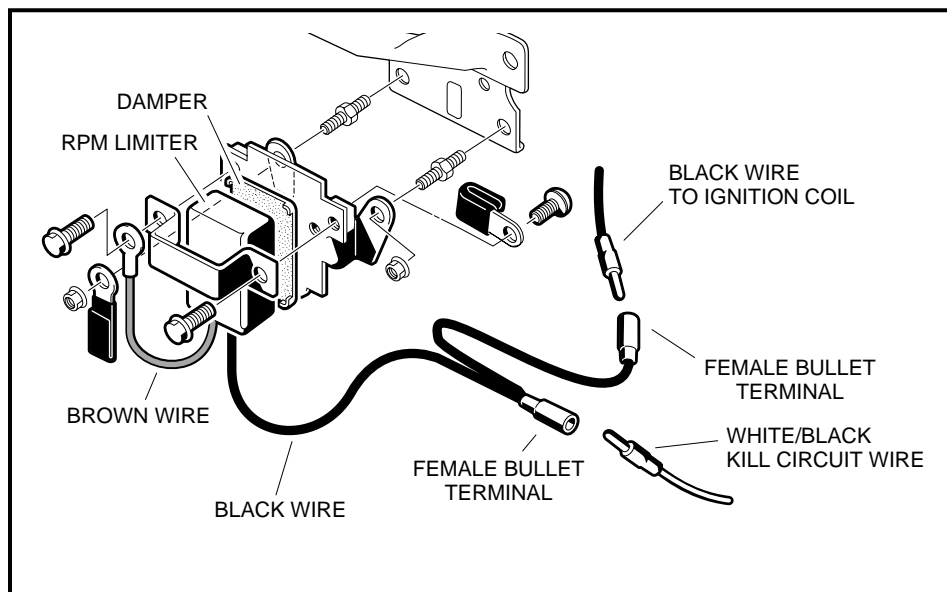

Figure 12-24 RPM Limiter Assembly
3. Disconnect the white/black wire from the black wire at the bullet connector located near the RPM limiter (**Figure 12-24, Page 12-24**).
5. Remove the flange head bolts from the RPM limiter band and remove the RPM limiter and damper (**Figure 12-24, Page 12-24**).
1. Place the RPM limiter damper on the front of the RPM limiter mounting bracket (**Figure 12-24, Page 12-24**).